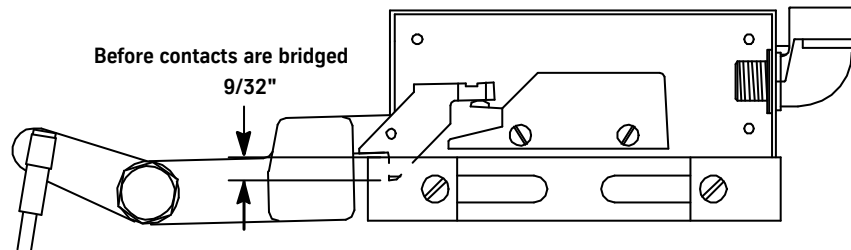

Figure 44 - Interlock Hook Engagement
8. While actuating the rollers and the interlock hook, verify that there is a $9/32"$ hook engagement before the contacts are bridged. See Figure 44.